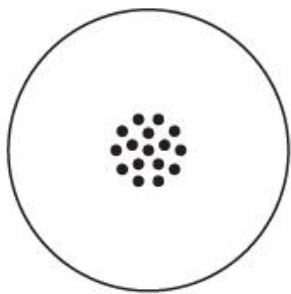
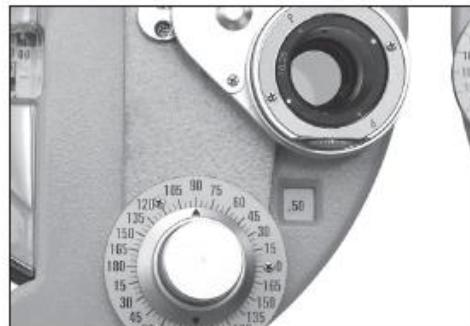
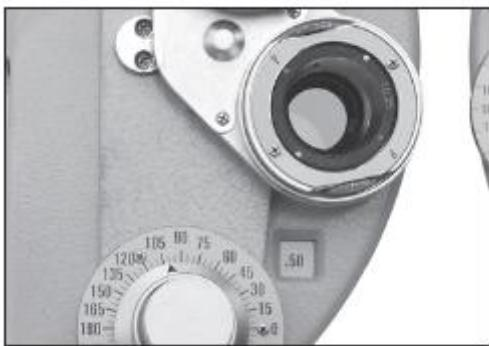
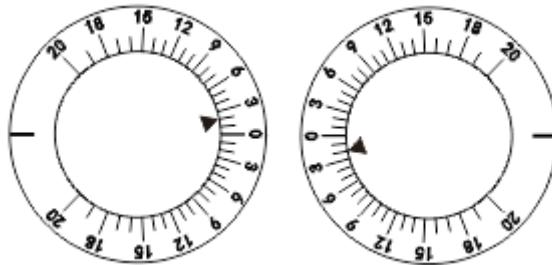

Fig.34
Fig.35
Fig.38
Fig.41
- (2) Project the cross cylinder dot chart as shown in Fig.34. Turn rotation knob ⑯ with finger to rotate cross cylindrical lens ⑩. Then ask Testee to compare the two images he sees before and after turning the cross cylindrical lens. Stop at the better side. For example, if what Testee sees is clearest as shown in Fig.35 of cross cylindrical lens, turn cylindrical lens axis knob ⑭ to move axis of cross cylindrical lens by 5° in direction of red dot, so that position of cylindrical lens axis scale ⑮ is positioned at 95° .
(6) Use cross cylinder dot chart shown in Fig.34 with same procedure as described in (2). Now ask Testee to compare the charts he sees. The result is shown as Fig.38. If Testee sees the clearest chart when red dot matches with letter P (as shown in Fig.38), it means Testee's diopter has increased by 0.25D (now Testee's diopter power is 0.75D).
(1) Rotary Prism Method
- Tests are performed for left and right eyes independently, in which, binocular prism shall be used for both eyes. On the whole, these tests are referred to as the binocular balance test. Set both eyes to O. Use the chart shown in Fig.34 and set prisms as 2ΔU (right eye), and 2ΔD (left eye) (see Fig.41)